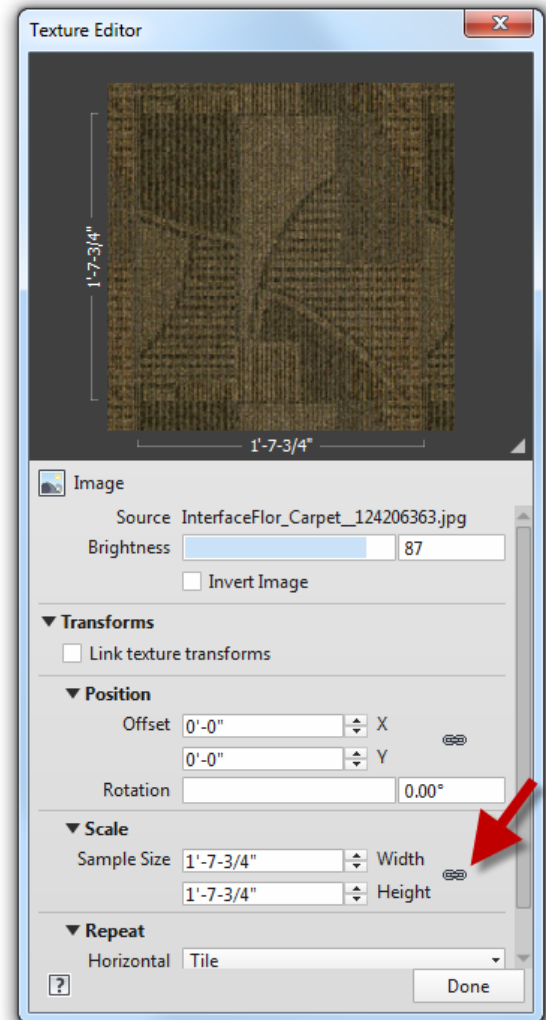

FIGURE 4-3.10 Texture Editor
You are now in the *Texture Editor* dialog (Figure 4-3.10). Here you may adjust several settings related to the raster image.
21. Click the chain icon pointed out in Figure 4-3.10.